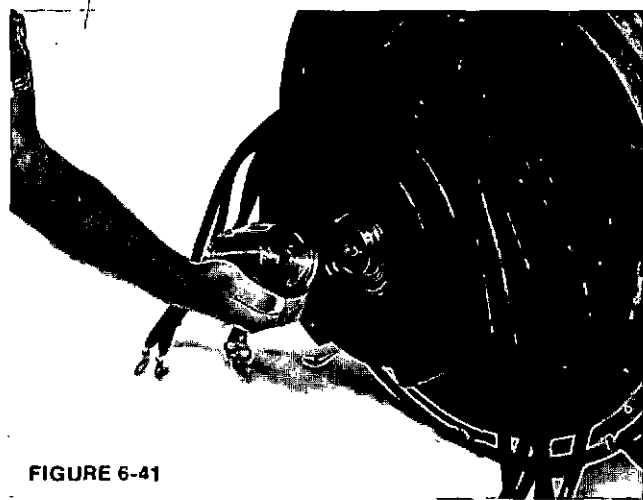

FIGURE 6-41
1. If unit is equipped with the optional PMG, install the stub shaft (Figure 6-41.) Torque mounting bolt to 84 ft-lb.